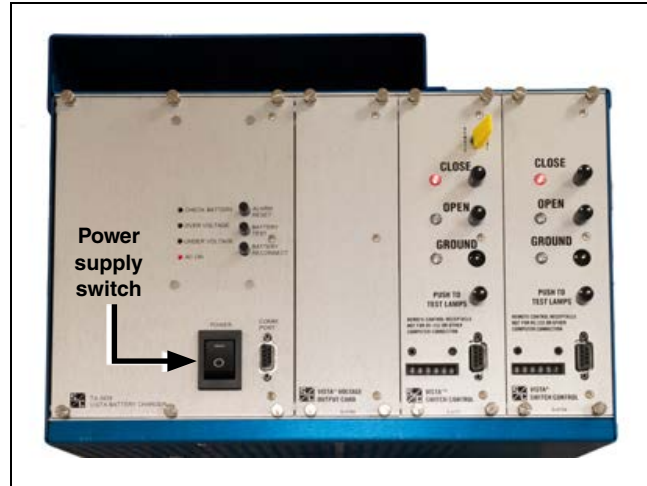

Figure 100. A Vista switchgear rack with CLOSE, OPEN, GROUND LEDs and controls.
**STEP 1.** When all preceding steps have been successfully completed, turn on the power supply power switch. See Figure 100.